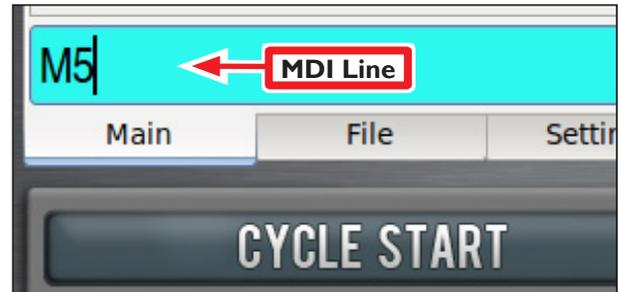

Figure 6.10
**MDI Line** – When running a G-code part program, commands to the mill are read from a file. It is often convenient to send G-code commands to the mill directly. This can be done by typing a command into the Manual Data Input line (MDI Line), as shown in **Figure 6.10**. This figure also shows the MDI Line after a command (M5) has been typed but not yet executed by pressing *Enter*. To use the MDI Line, click the mouse in the bar marked *MDI*; the line is highlighted. Type the desired command in the highlighted line. Use the *Backspace*, *Delete*, *Left* and *Right* arrow keys to correct typing errors. Press *Enter* to execute the command; press *Esc* to abandon it and close the MDI Line. Recent commands are stored for reuse. You can choose one of these to copy into the MDI Line using the *Up* and *Down* arrow keys (after clicking in the MDI Line). Up to 100 commands are saved between sessions; even after a power cycle, the command history is available.